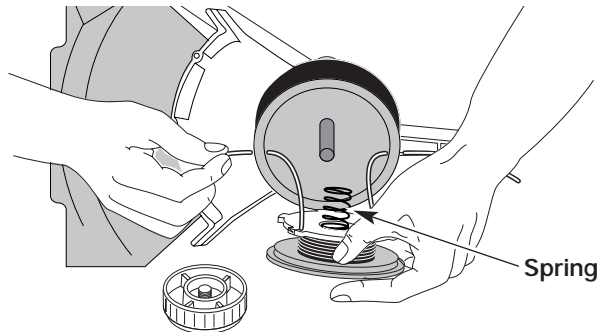

Fig. 35
13. Insert the ends of the line through the eyelets in the outer spool and place inner reel with spring inside the outer spool (Fig. 35). Push the inner reel and outer spool together. While holding the inner reel and outer spool, grasp the ends and pull firmly to release the line from the holding slots in the reel.
5. Insert the ends of the line through the eyelets in the outer spool (Fig. 35).